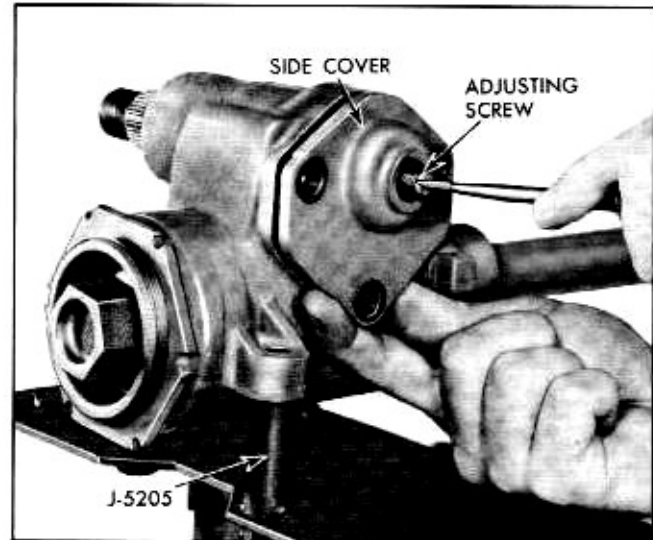

Fig. 9-19 Removing or Replacing Side Cover
3. Remove side cover and gasket by turning adjusting screw clockwise through cover (Fig. 9-19).